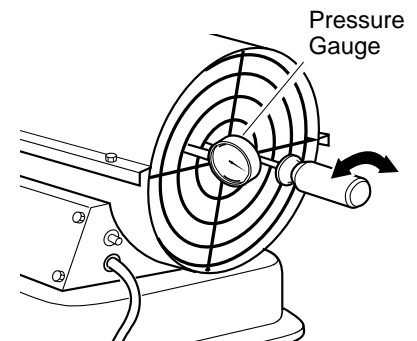

Figure 9 - Adjusting Pump Pressure
4. Adjust pressure to 6.0 PSI. Turn relief valve to right to increase pressure. Turn relief valve to left to decrease pressure. See Figure 9.